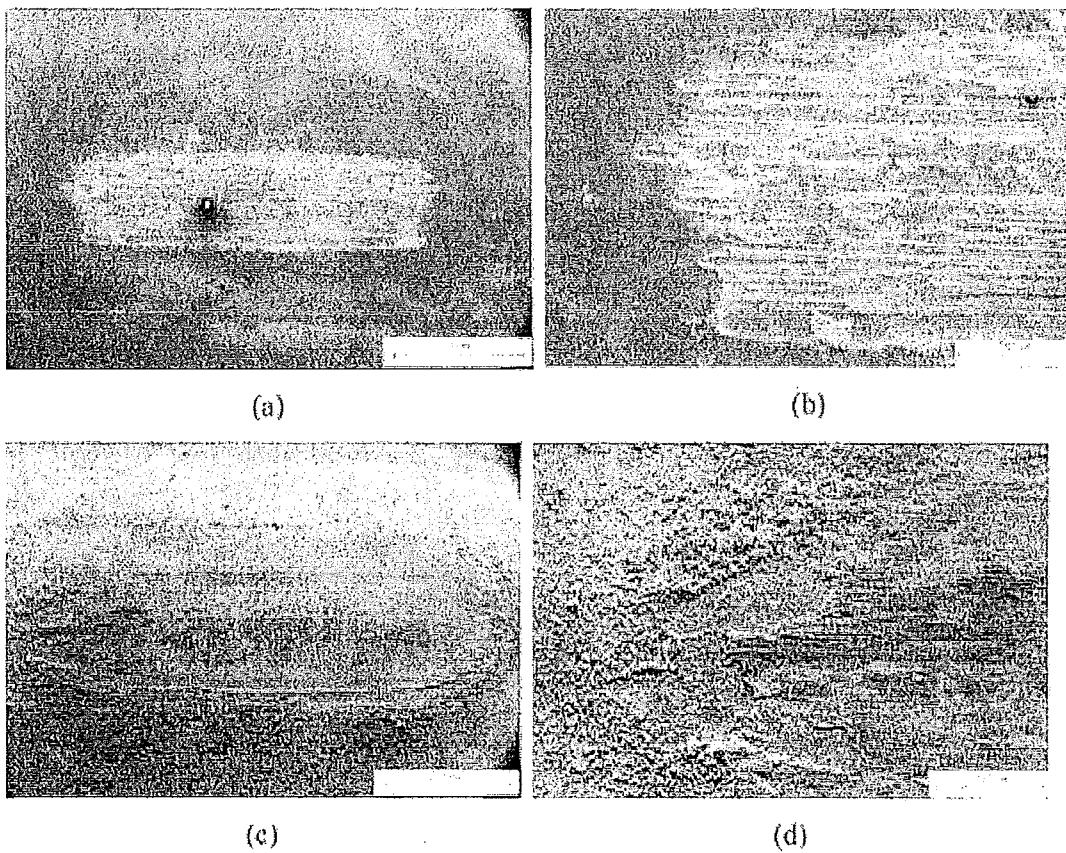

Figure 8 : Scanning electron micrographs of areas in the wear tracks of Zn and zinc-iron coatings, (a) and (b) galvanized; (c) and (d) ZnFe.
- [b] Figure 8 presents the worn surface of samples underwent wear-corrosion test. Figures (a) and (b) are for the hot-dip galvanized coated sample while (c) and (d) are for Zn-Fe coating. The weight loss and surface roughness measured after the wear-corrosion test is given in Table 1. Elaborate on the findings.